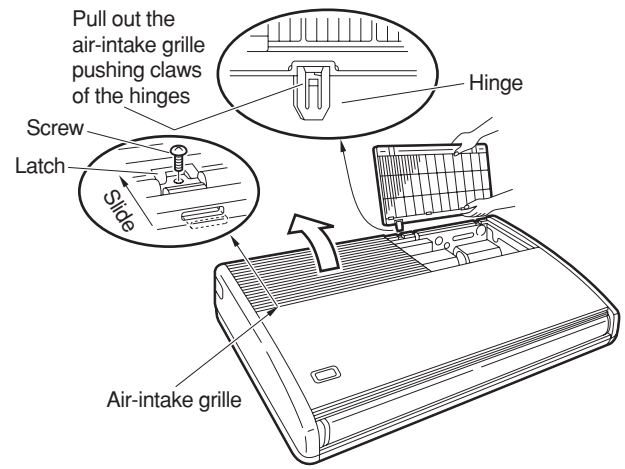
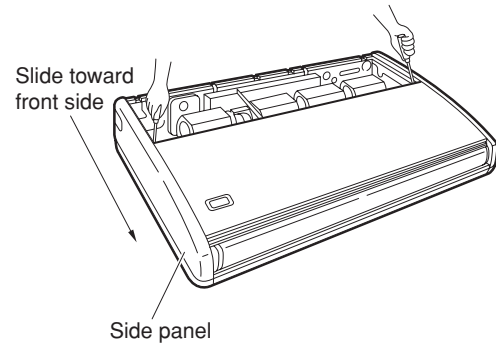

Fig. 3-41
Fig. 3-42
(5) Before suspending the indoor unit, remove the 2 or 3 screws on the latch of the air-intake grilles, open the grilles, and remove them by pushing the claws of the hinges as shown in Fig. 3-41. Then remove both side panels sliding them along the unit toward the front after removing the 2 attachment screws. (Fig. 3-42)